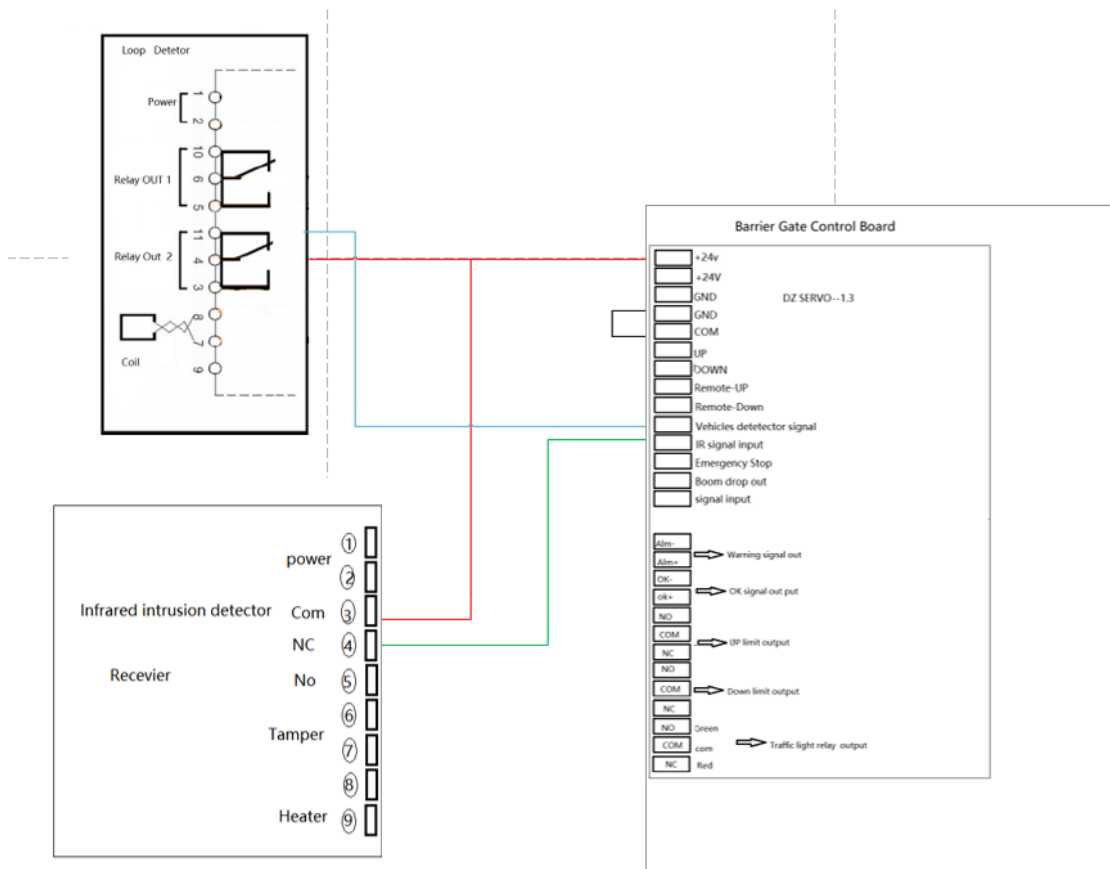

Figure 4-4
4. When the Loop detector and the IR be used at same time. The wiring diagram is shown in the figure 4-4.